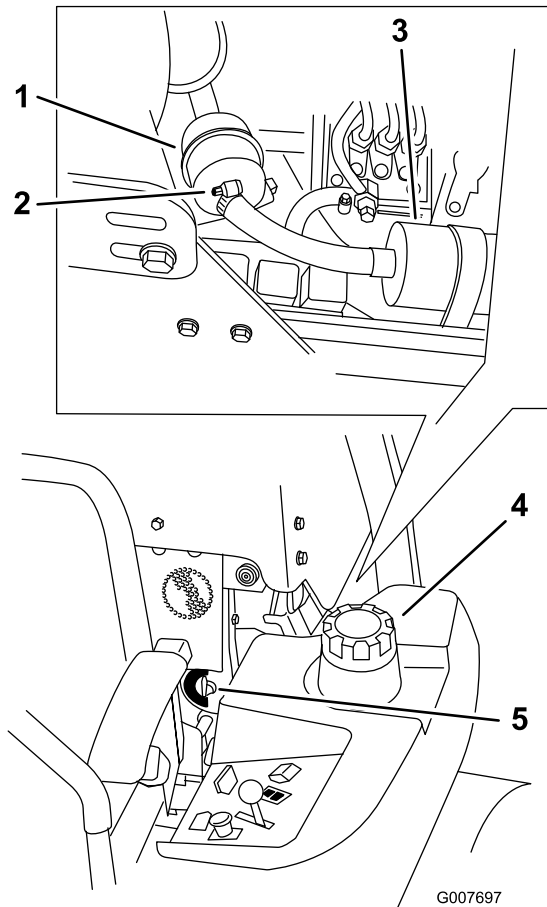

Figure 51
4. Close the fuel shut-off valve (Figure 51).
5. Loosen the two hose clamps and disconnect the fuel lines from the fuel filter (Figure 51).
6. Install a new filter. Connect the fuel lines to the fuel filter and install the two hose clamps (Figure 51).